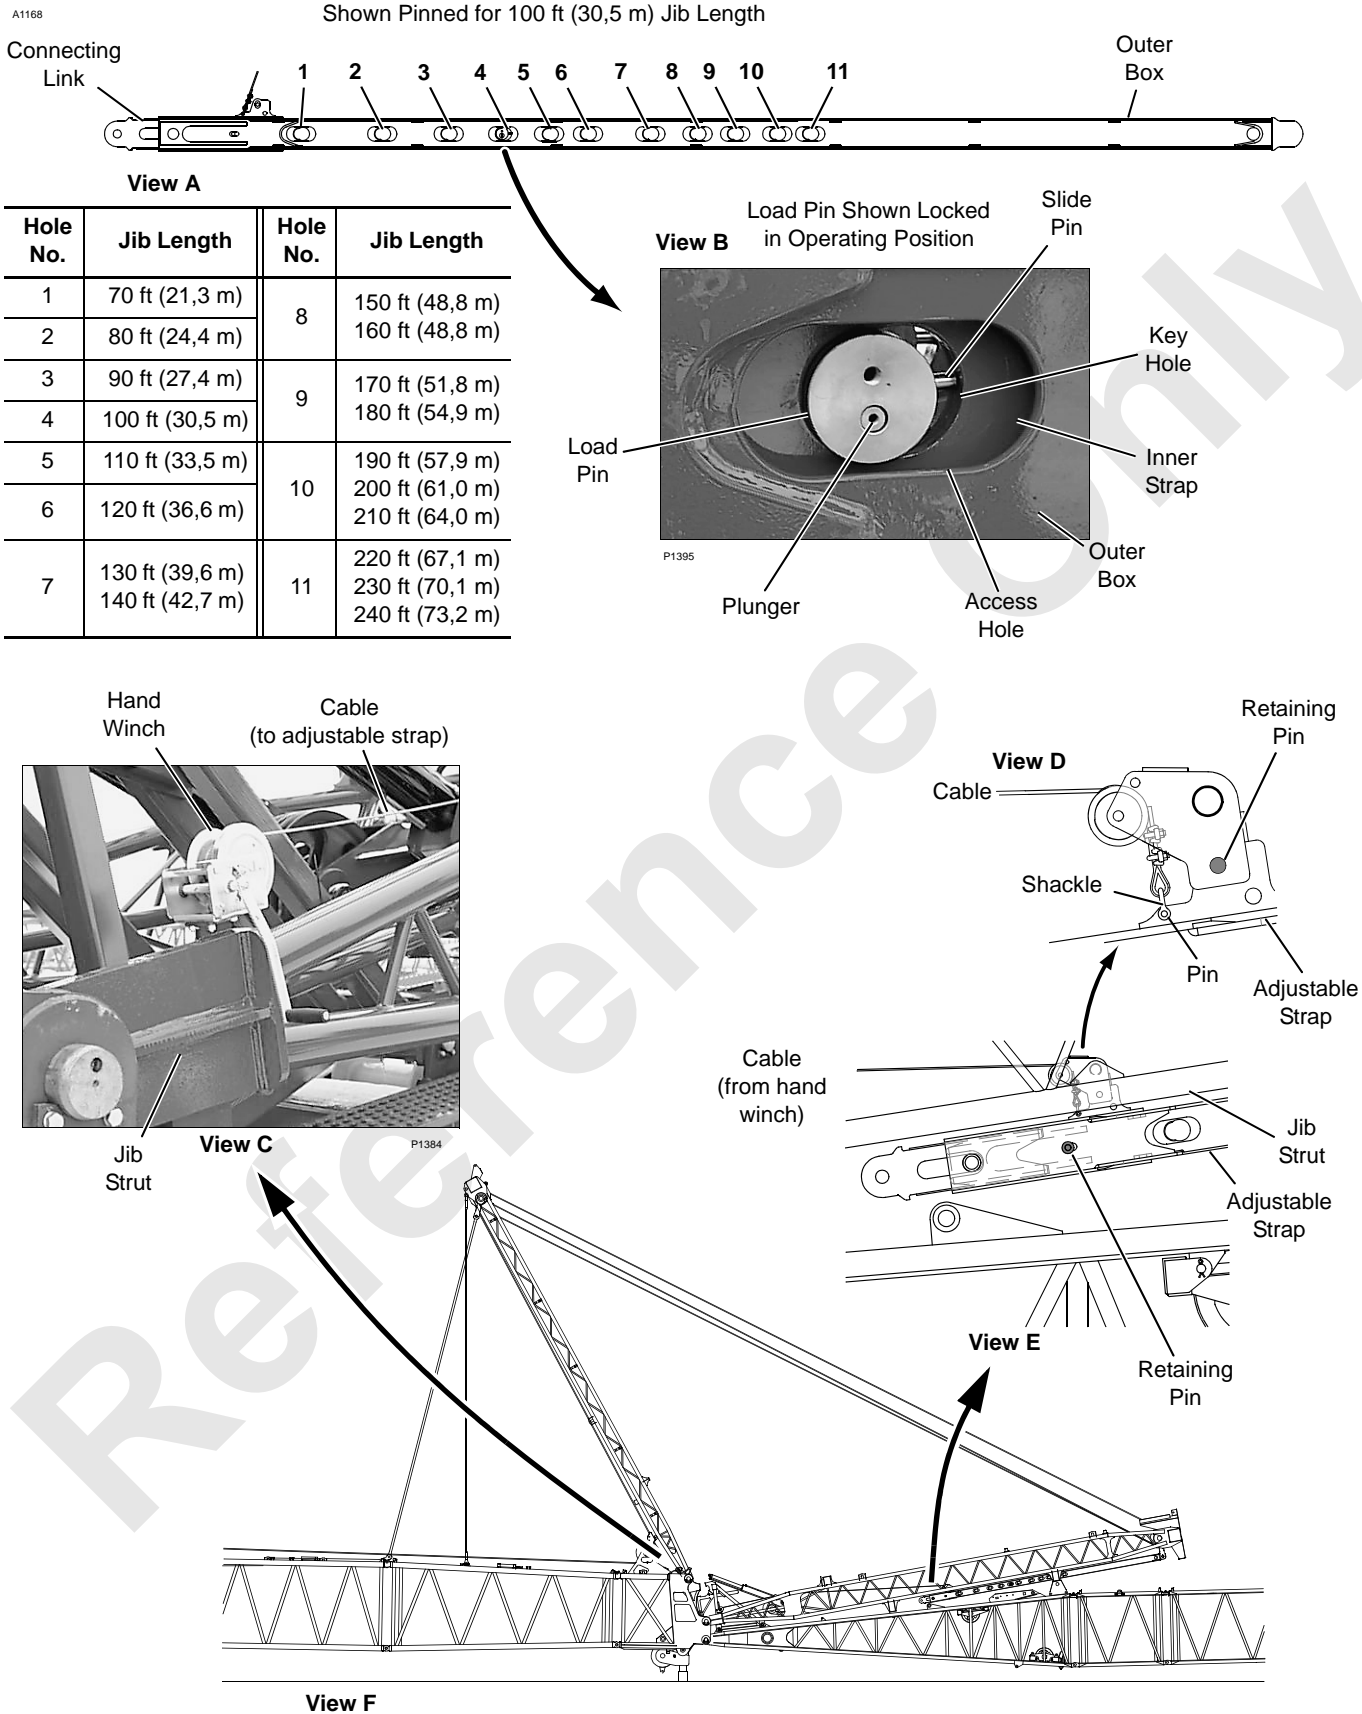

FIGURE 4-9
See Figure 4-9 for following procedure.
Pin adjustable strap in proper hole for jib length (Figure 4-9, View A)
Make sure adjustable strap locking pin is installed (Figure 4-9, View E).
1. Determine correct pinning location for adjustable strap based on desired jib length. (See View A and table in Figure 4-9).